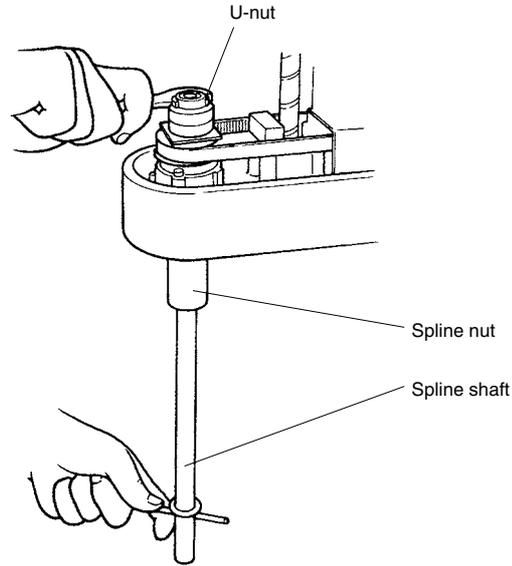

Fig. 5-29
- 7) While placing a steel rod or similar tool through the 7mm diameter hole at the lower part of the spline, loosen the U-nut at the top of the spline with the wrench, and remove the bearing and bearing mount plate. (See Fig. 5-29.) Use a round steel rod with a diameter slightly smaller than 7mm. Avoid using a square rod because the spline might be damaged by the edge of the rod. At this point, be careful to keep the spline shaft from coming off the spline nut.
- 23) Insert the bearing mount plate and bearing onto the spline from the top, and tighten the U-nut to secure the bearing. (Utilize the  $\phi 7$  through-hole when tightening the U-nut like you did to loosen it.) (See Fig. 5-29.)